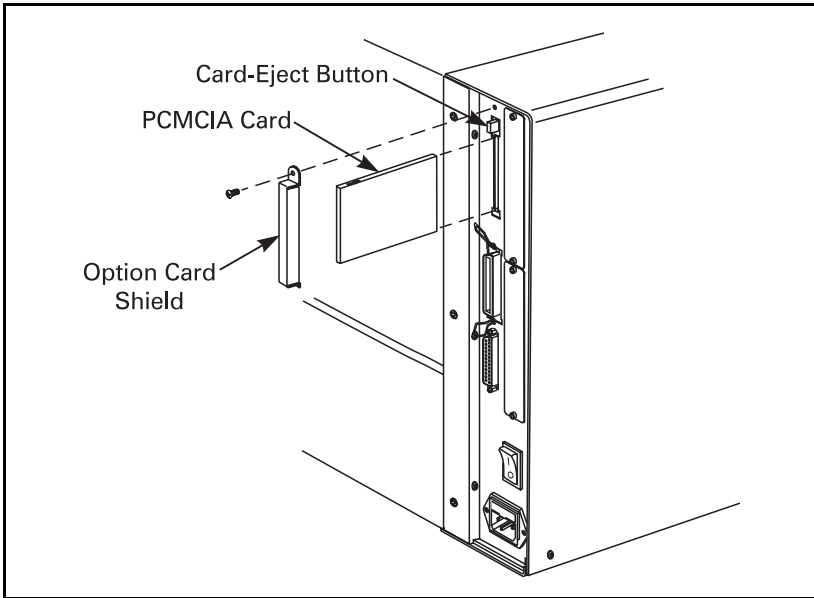

Figure 48. PCMCIA Card Installation
1. Place the POWER switch in the “off” position (O) and disconnect the power cord. Disconnect the data cables.
2. Refer to Figure 48. Remove and retain the screw and the option card shield from the rear of the printer.
7. Press and hold **FEED** while placing the power switch in the “on” position (I).